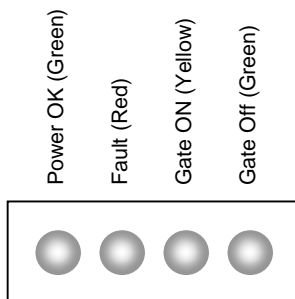

Fig. 10: LEDs for visual feedback.
The optical status feedback output (SF) and the four LEDs (see Figure 10) provide the user with information according to Table 2: